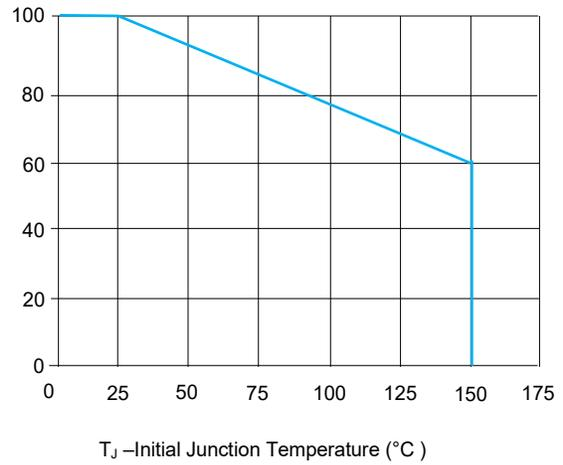

FIGURE 2 Peak Pulse Power Derating Curve
1. Non-repetitive current pulse, per Fig. 3 and derated above  $T_J(\text{initial})=25\text{ }^\circ\text{C}$  per Fig. 2.